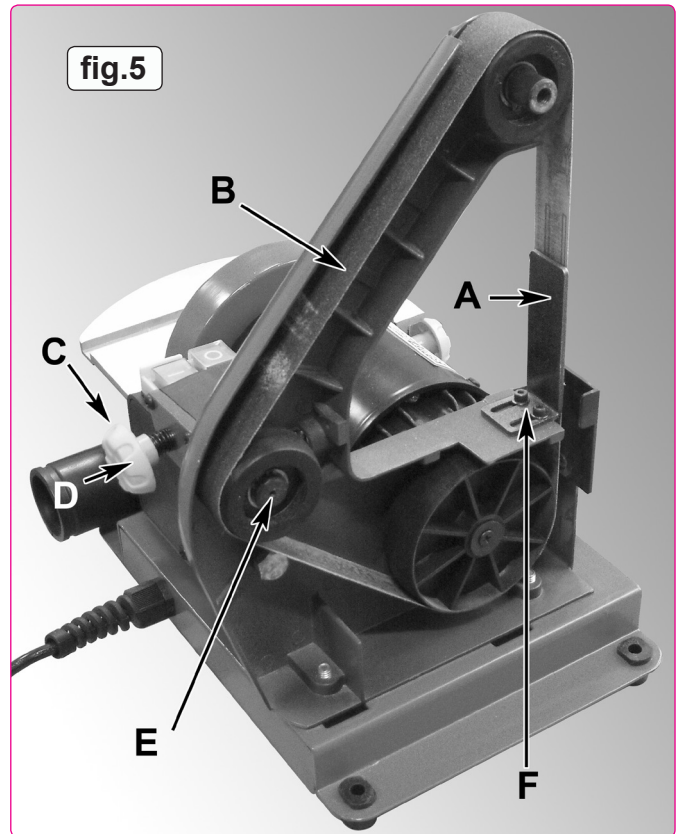

fig.5
4.3.1 Referring to fig.5, position the backing plate (A) behind the belt and insert the two socket cap screws provided through the slots in the plate and screw them down, finger tight. See fig.5(F) The plate should just touch the back of the belt without applying any pressure to it. Finally tighten the two screws with a 3mm hex key.
4.6.1 The sanding belt supplied with the machine is factory set to run in alignment with the drive wheels. Should the belt begin to run out of true it can be re-centred using the tracking knob shown in fig.5(C). Turn the knob clockwise to move the belt to the right, (when facing the machine). Turn the knob counter clockwise to move the belt to the left.
- 6.6.2 Referring again to fig.1, remove the two belt cover fixing screws (15) and lift off the black plastic side cover to reveal the belt and drive wheels as shown in fig.5.